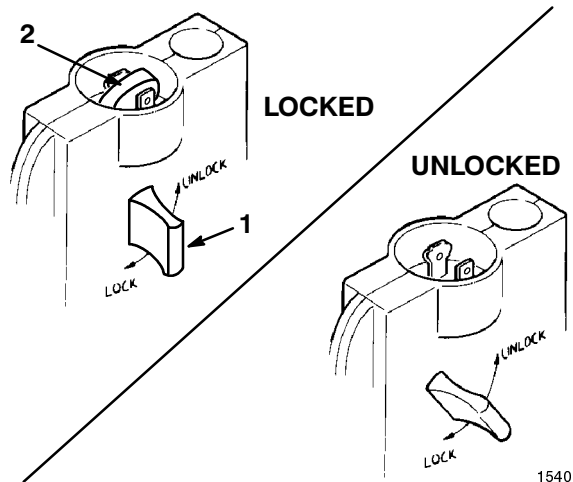

Figure 6
1. To unlock the snowthrower, push the key into the hole (Fig. 6). While holding the key down, turn the key counterclockwise. The interlock tab rotates away from the prongs, allowing the extension cord to be plugged in (Fig. 6). Do not attempt to remove the key when it is in the unlocked position.